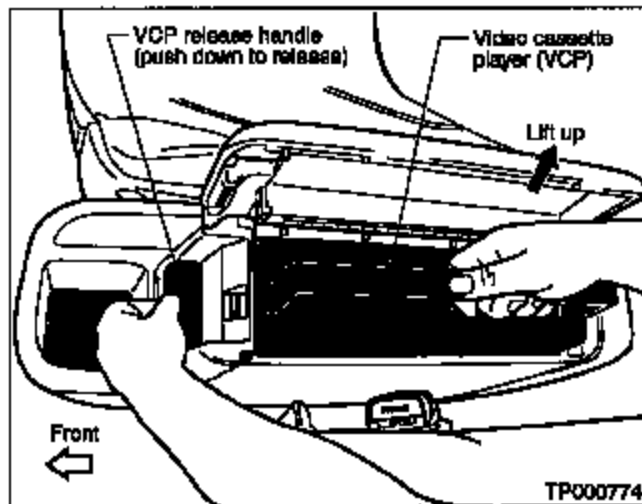

Figure 13
- B. Remove the VCP from the NVES console by first pressing down on the "VCP Release" handle, then lifting the VCP up out of the NVES console (see Figure 13).